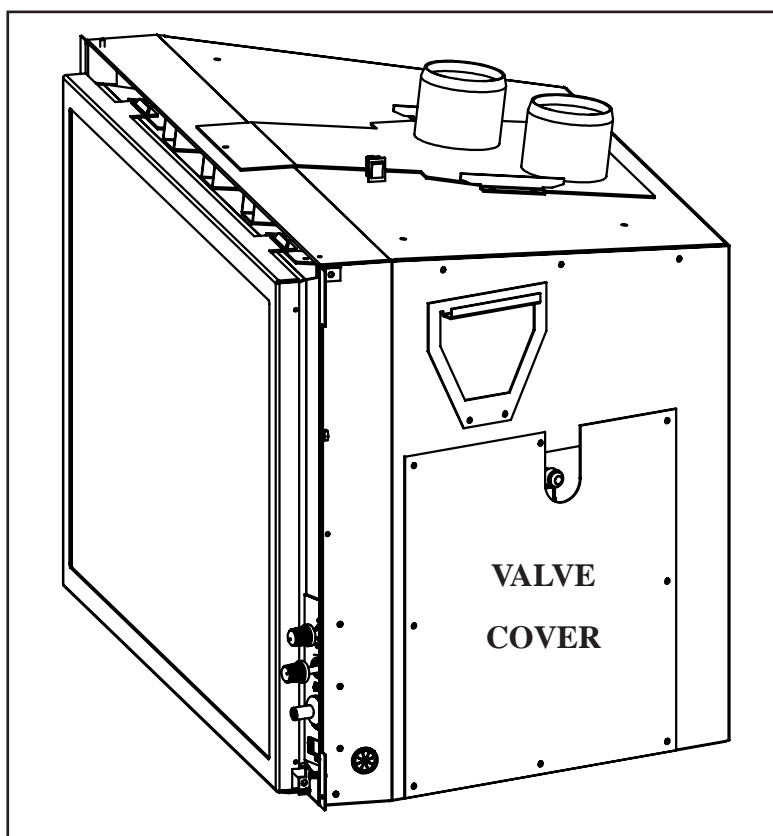

Figure 10: Valve Cover.
1. Use a T-20 screwdriver to remove the eight screws that hold down the valve cover shown in Fig. 10.